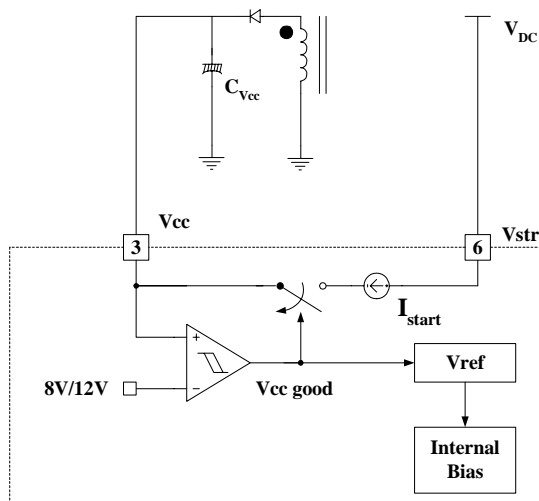

Figure 5. Pulse width modulation (PWM) circuit
2.1 Pulse-by-pulse current limit: Because current mode control is employed, the peak current through the Sense FET is limited by the inverting input of PWM comparator (V_{fb}^*) as shown in figure 5. Assuming that the 0.9mA current source flows only through the internal resistor ($2.5R + R = 2.8\text{ k}\Omega$), the cathode voltage of diode D2 is about 2.5V. Since D1 is blocked when the feedback voltage (V_{fb}) exceeds 2.5V, the maximum voltage of the cathode of D2 is clamped at this voltage, thus clamping V_{fb}^* . Therefore, the peak value of the current through the Sense FET is limited.